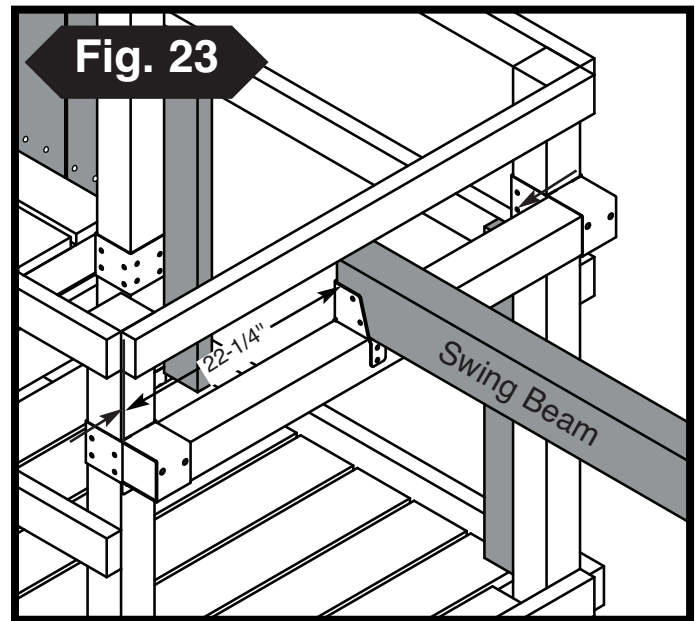

Fig. 24
3. Secure as shown in (**Fig 24**).